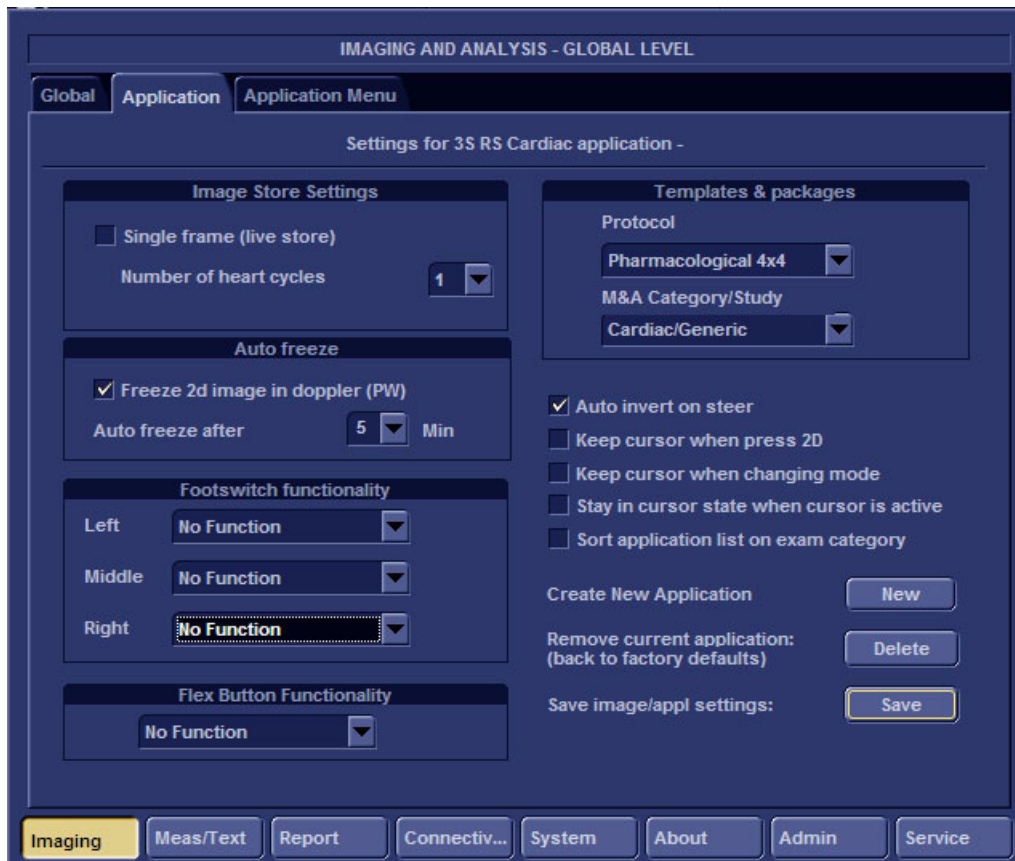

Figure 3-41 Application Tab
- 2.) Select **Imaging**, then activate the **Application** tab - see Figure 3-41.